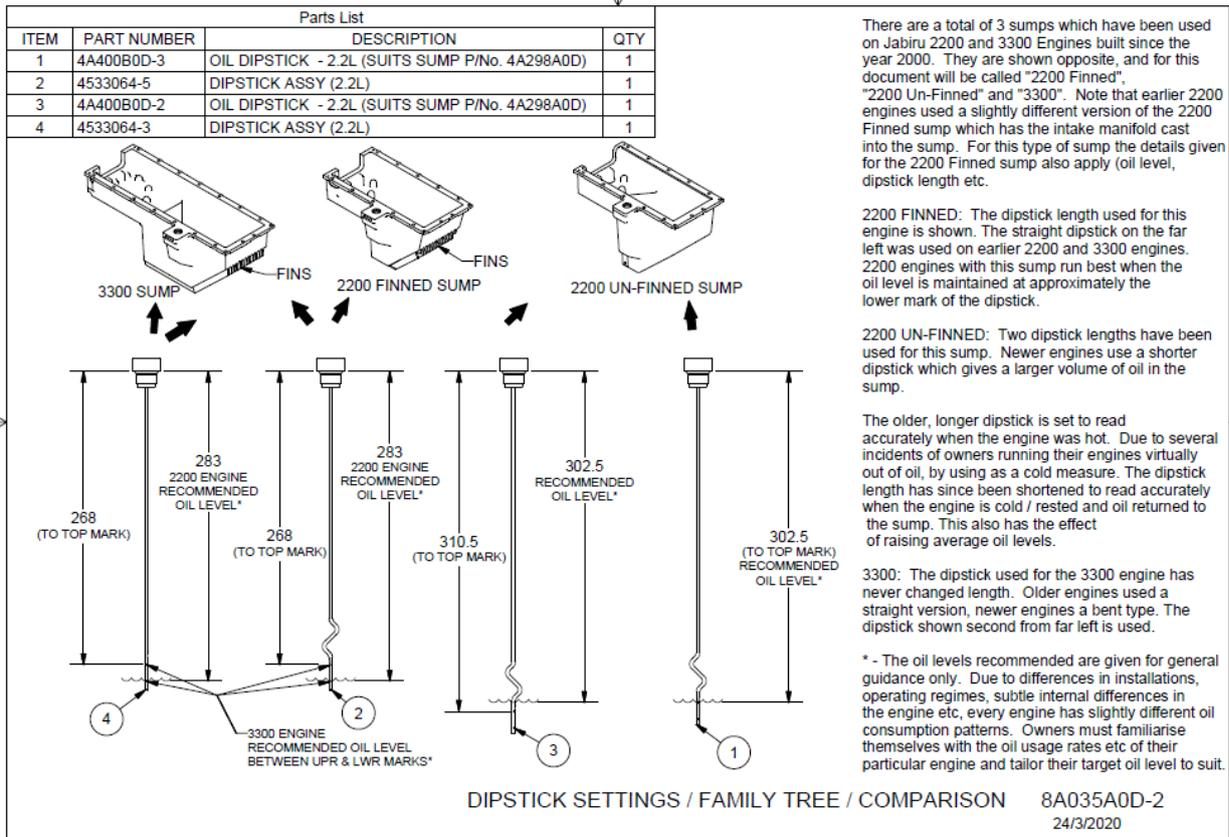

Figure 10. Dipstick Family Tree #1
- Over the course of it's development the 2200 engine has used several different sumps and dipstick lengths. Figure 10 gives an explanation of these lengths and what oil levels should be maintained.